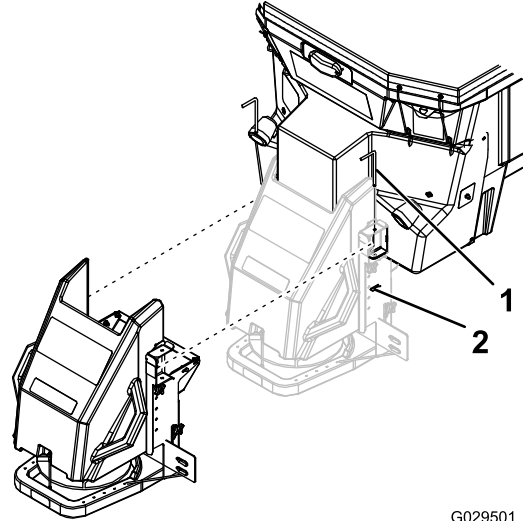

Figure 20
3. Remove the 2 latch and cotter pins securing the spinner assembly to the hopper (Figure 20).